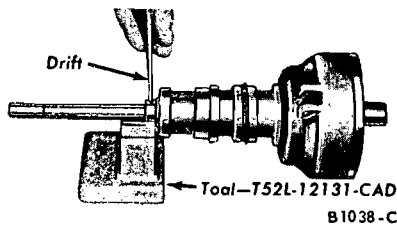

FIG. 10—Collar Pin Removal or Installation
15. Remove the shaft collar roll pin (Fig. 10).